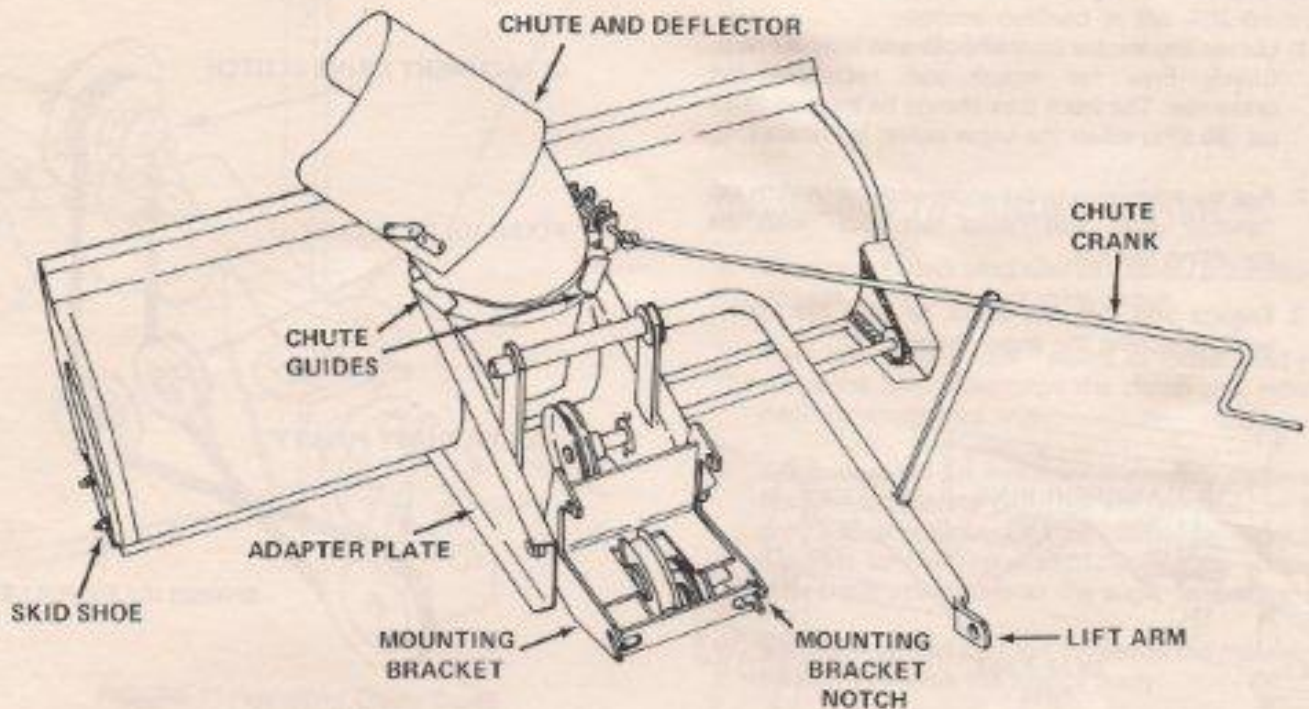

FIGURE 7 Snow Caster (Assembled)
2. Position the mounting bracket between the auger housing adapter plates as shown in Figure 7.